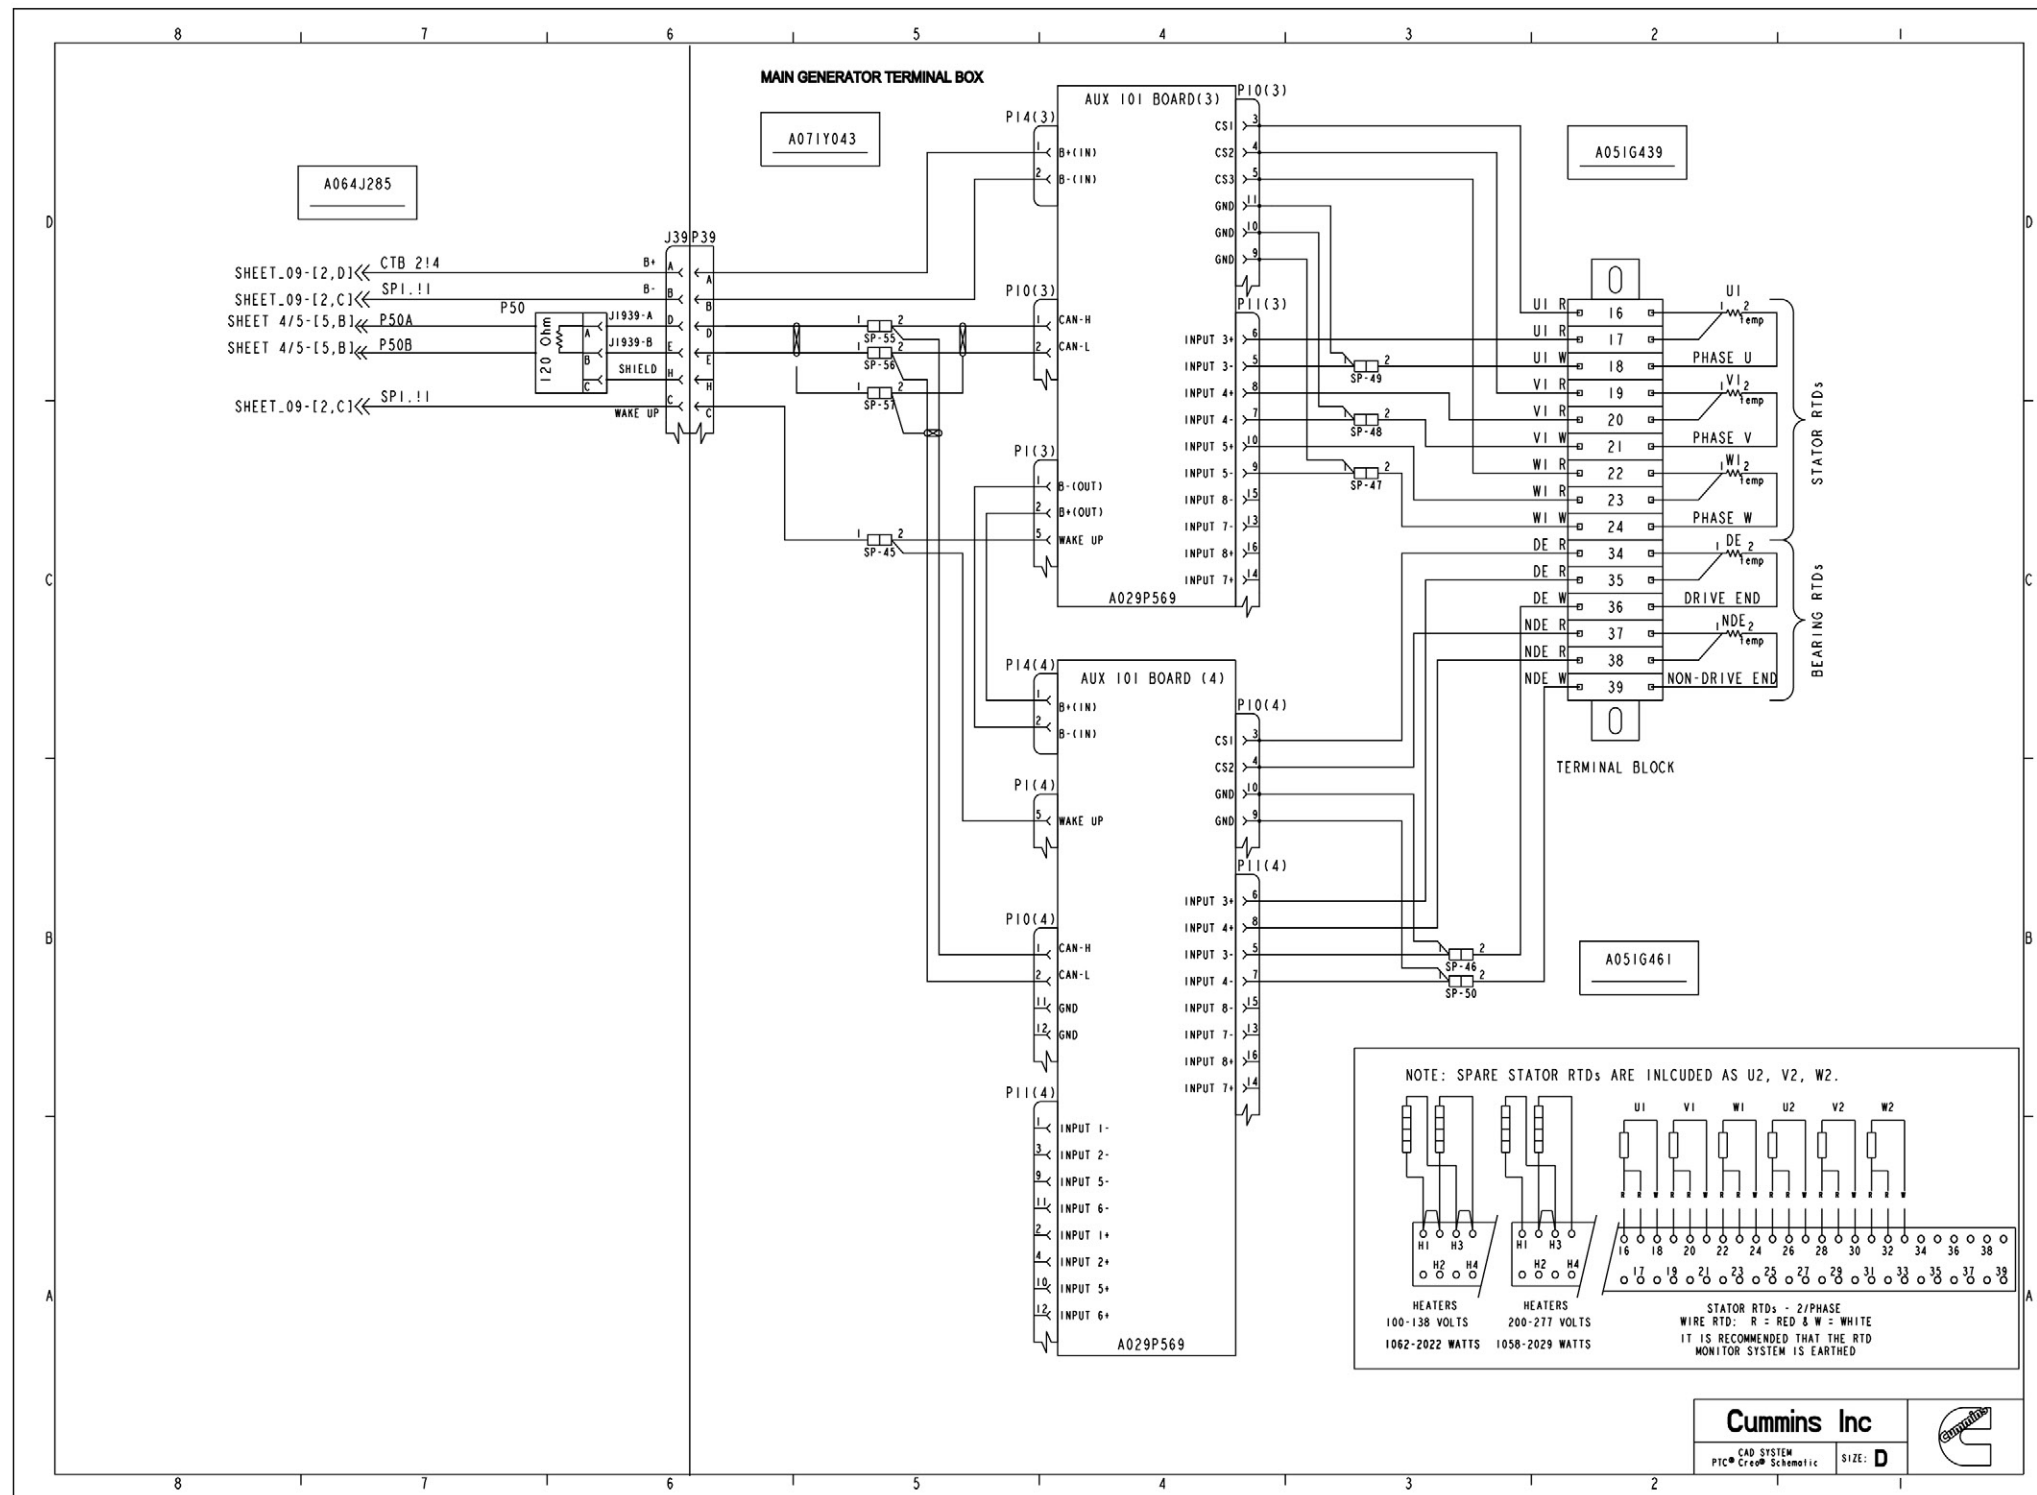

FIGURE 63. WIRING SCHEMATIC (SHEET 8)
- Figure 63. Wiring Schematic (Sheet 8) 118